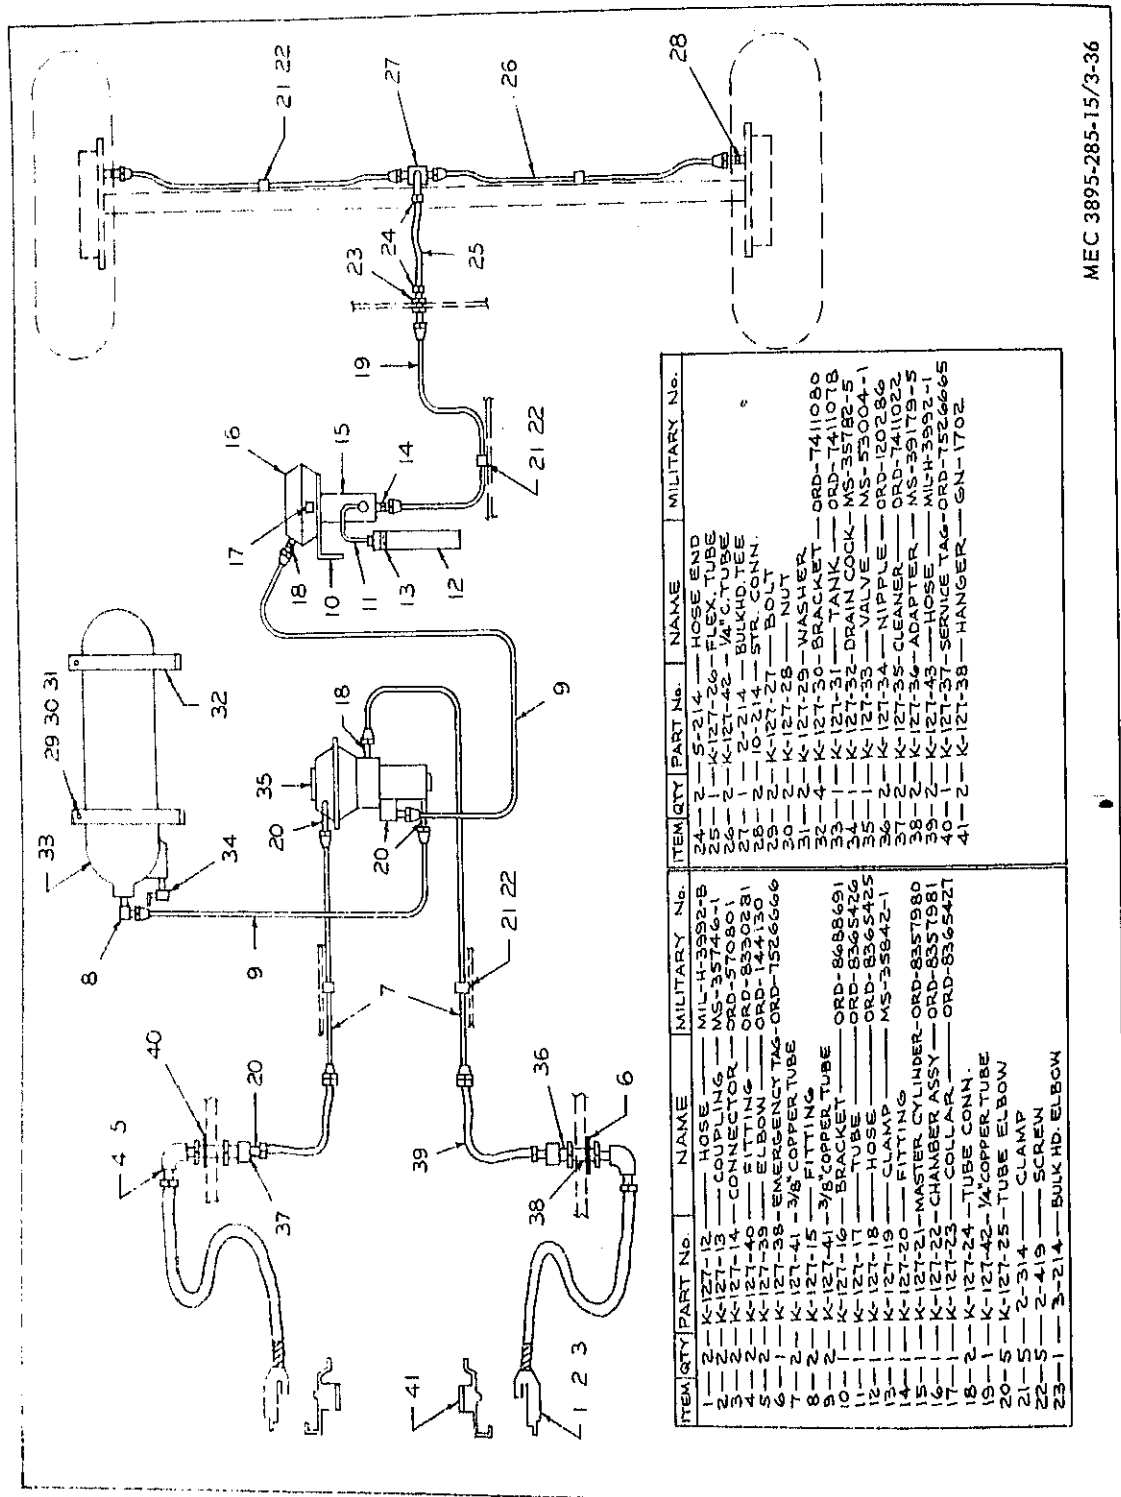

Figure 3-36. Air/Hydraulic Brake System.
(2) *Manual bleeding.* Connect trailer braking system or manual bleeding operations as brake pedal on towing vehicle must be depressed and released to actuate system. The hydraulic master cylinder reservoir as shown in figure 3-36, must be kept full during bleeding operations.
(4) Install upper shoe return spring on spring anchor pin in forward and rear shoes.
(5) Install lower shoe return spring, and handbrake cable. Remove clamp.
(6) Install hub, brake drum and wheel (para 3-66).
(7) Adjust service brakes (para 3-57a).
(8) Bleed brake system.
(9) Close air reservoir drain cock (fig. 3-36).
3-59. Hydraulic Brake Master Cylinder and Air Chamber Assemblies (fig. 3-36)
(1) Drainage of moisture from emergency relay valves. To drain accumulated moisture, remove drain plug. Replace after drainage (fig. 3-36).
(2) Operating test.